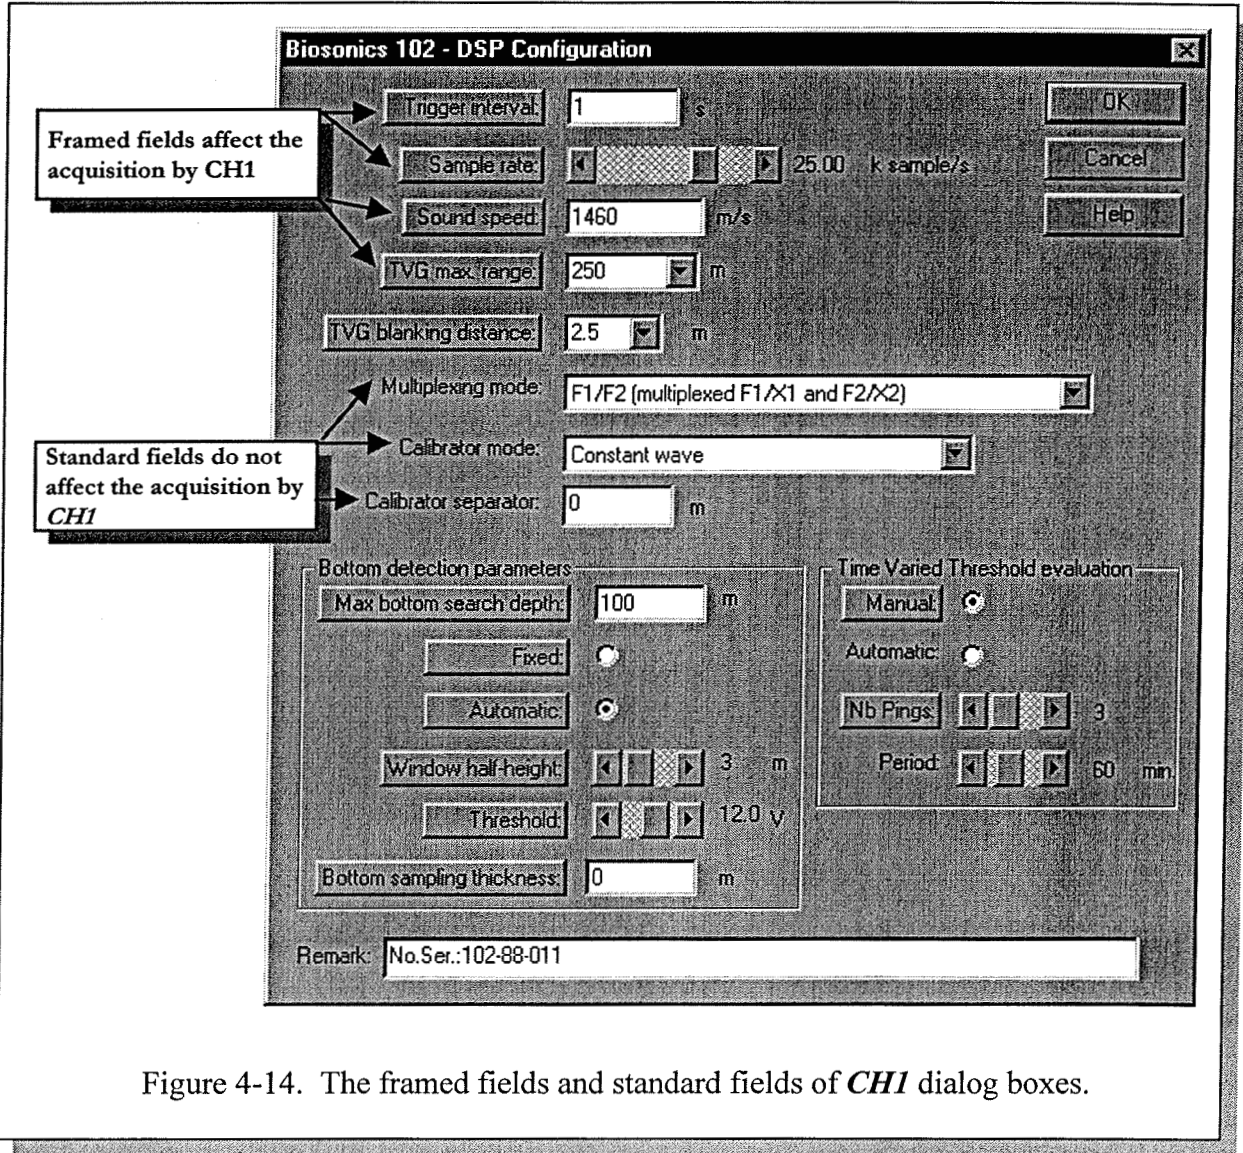

Figure 4-14. The framed fields and standard fields of **CHI** dialog boxes.
6. In each **CHI** dialog box, the framed (three-dimensional) fields (Figure 4-14) identify important fields affecting how **CHI** will work and acquire data. The other fields either serve as comments or they carry some information required for further data processing steps, but they do not affect the acquisition by **CHI**. Note that the **CHI** menus that are available are
In **CHI** dialog boxes, the framed (3-dimensional) fields (Figure 4-14.) identify important fields affecting how **CHI** will work and acquire data. The other fields are either dedicated to comments or to carry information required for further data processing steps, but they do not affect the acquisition by **CHI**.